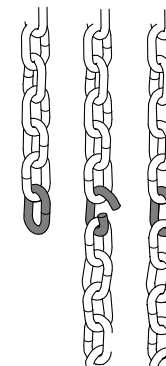

Figure 26
- Connect the hand chain ends together as shown in Figure 26 by twisting open the last link on one end of the chain, and slipping the last link on the opposite end onto the open link.